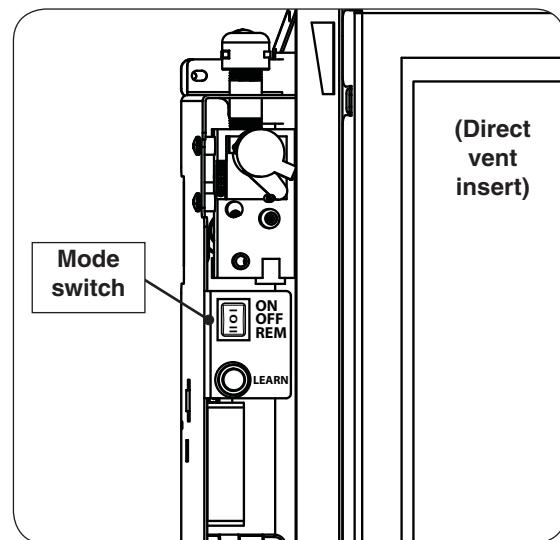
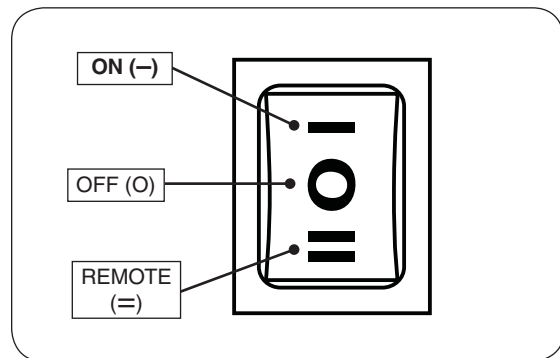

Fig. 41-1 Control box (left side of unit)
Fig. 41-2 Mode switch detail
1. Open the surround door. Locate the 3-position mode switch on the control box (see Fig. 41-1). Press the switch up to the **ON (—)** position (see Fig. 41-2). The system will beep and the ignition sequence will begin.